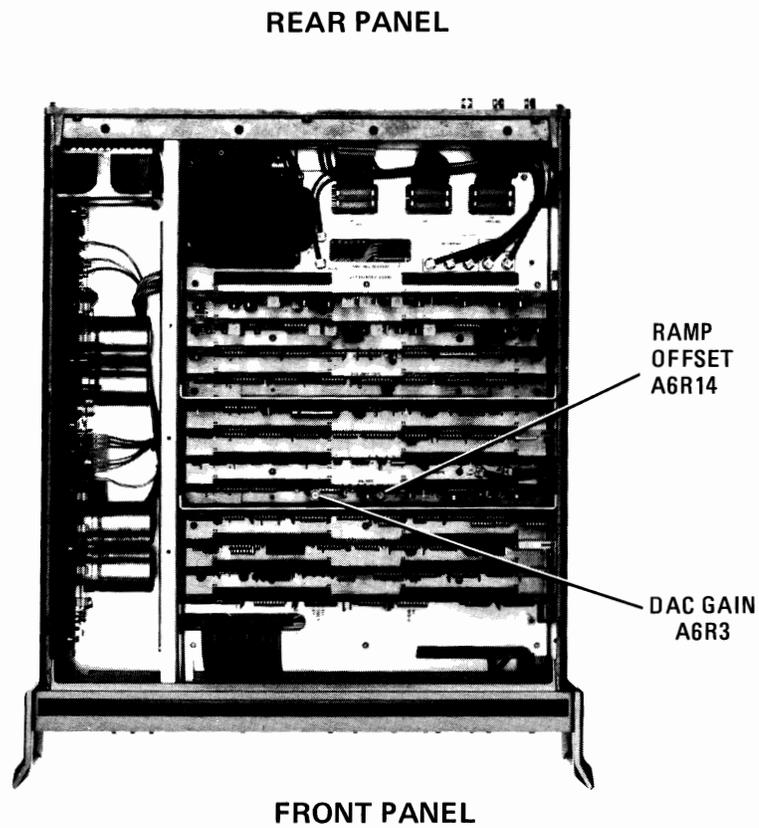

Figure 1. Internal Adjustments Locations
11. On the 8501A press the STORAGE ON pushbutton, then ERASE. Alternately press STORAGE ON and STORAGE OFF while adjusting the DAC GAIN (A6R3) and RAMP OFF (A6R14) controls (see Figure 1 on facing page) so that the 5 markers appear in the same position horizontally across the CRT between STORAGE OFF and STORAGE ON.